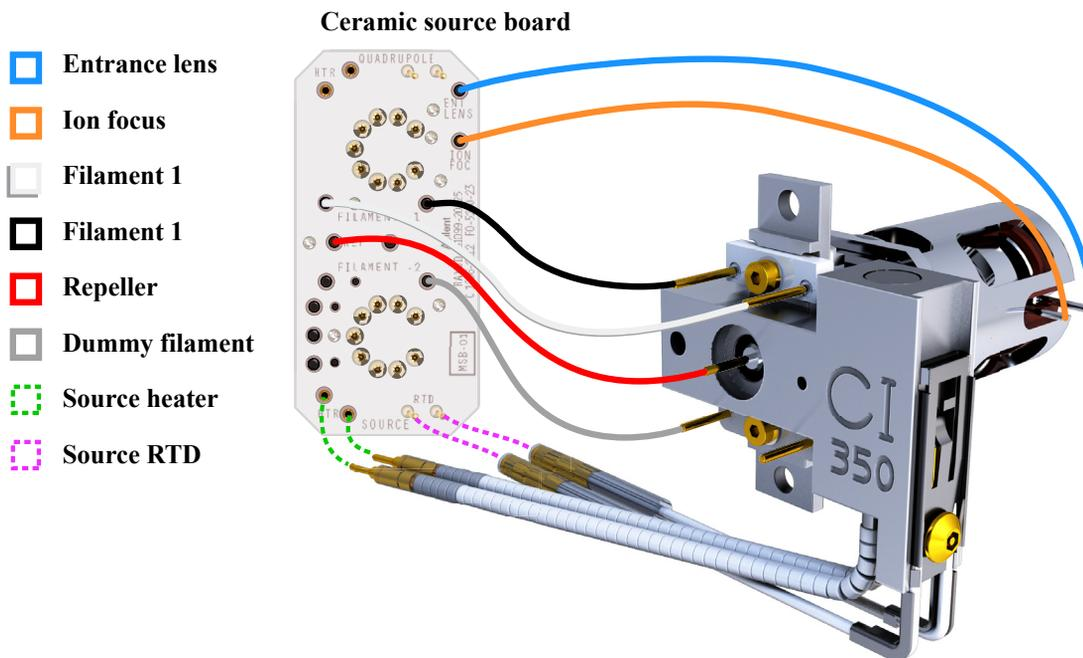

Figure 75 Wiring between the ceramic source board and the source
- 1 Use pliers to connect/disconnect the ceramic board wire leads (red, white, black, and gray) at the source connectors. (See Figure 75.)
- 2 Use pliers to connect/disconnect the source heater wire leads at the ceramic source board. (See Figure 75.)